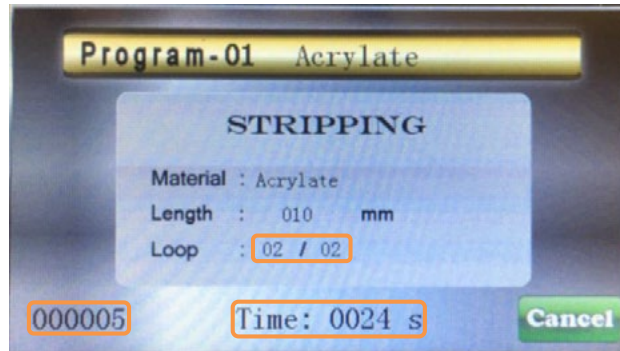

Figure 4.3.5
- (3) Along with the process progress, a few parameters in the touch panel display are dynamically updated (see circled in Fig. 4.3.5), including the time counting, the loop cycle counting, and the operation number counting upon finishing the process.